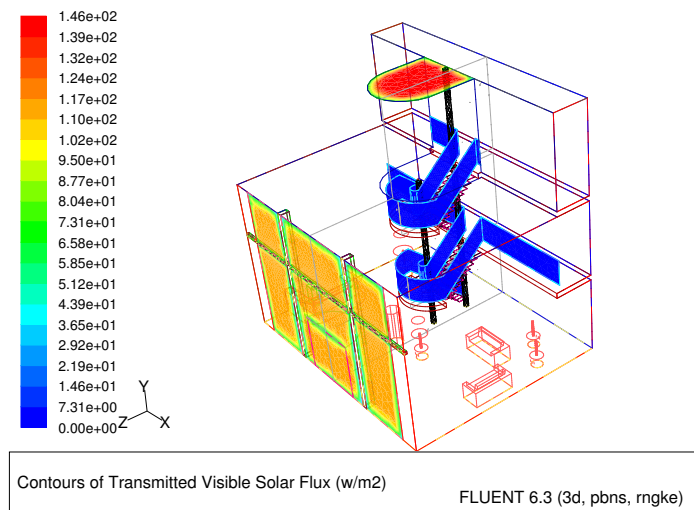

Figure 6: Contours of Transmitted Visible Solar Flux on the Glass Surfaces
5. Display contours of Transmitted Visible Solar Flux on the glass surfaces (Figure 6).